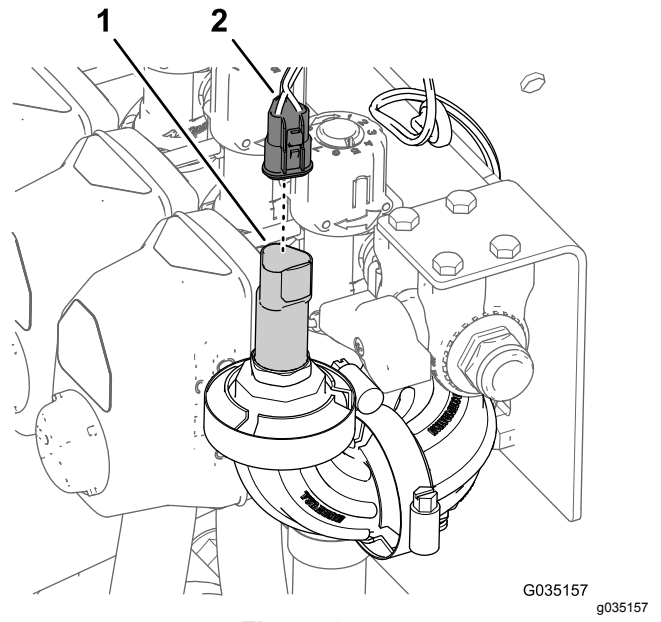

Figure 25
- For machines with the ExcelsaRate sprayer system, disconnect the 3-socket connector of the rear-wire-harness from the 3-pin connector of the pressure transducer (Figure 25).